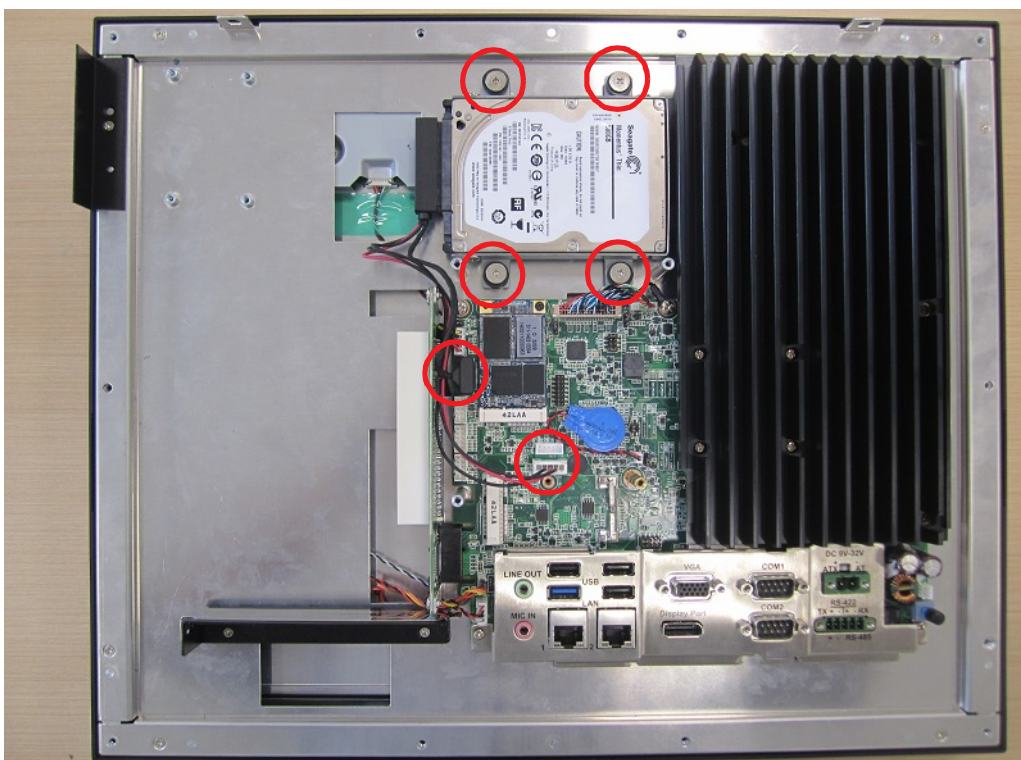

Figure 2.13
5. Replace the HDD bracket and secure in place. Connect the other end of the HDD data cable to the mainboard (see Fig. 2.13).